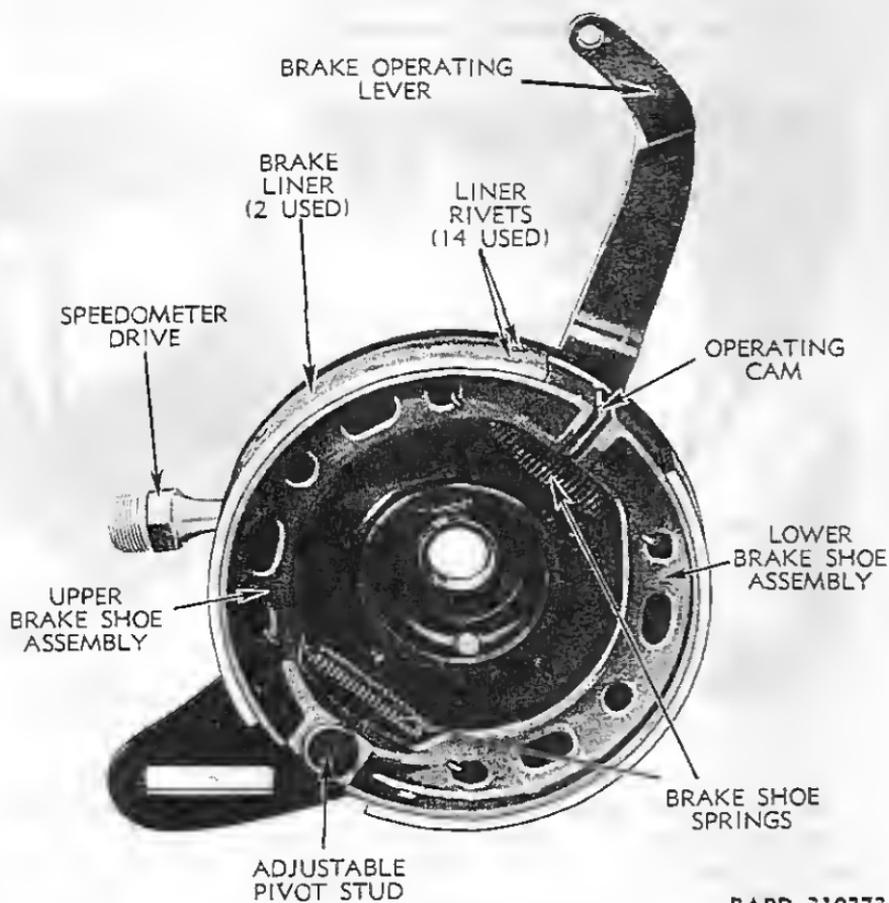

Figure 61--Rear Brake Assembly
c. Remove Brake Shoes (fig. 61).
(1) Remove rear wheel (par. 127).
(2) Remove brake drum and sprocket assembly. Brake shoes are now accessible. Do not remove side cover assembly from frame.
(1) Engage ends of springs in shoe assembly holes from the inside before installing shoes on side cover (fig. 61).
(2) With brake shoes and springs assembled, install so that ends of shoes will slip over pivot stud and shaft-operating cam.
(3) Connect brake rod clevis to brake operating lever.